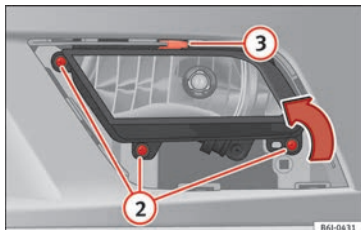

Fig. 151 Front fog light.
- Remove the bolts (3x) » Fig. 151 ② to remove the fog light.
- Remove the metal clip situated on the upper part of the fog light by pulling towards the exterior of the vehicle » Fig. 151 ③.